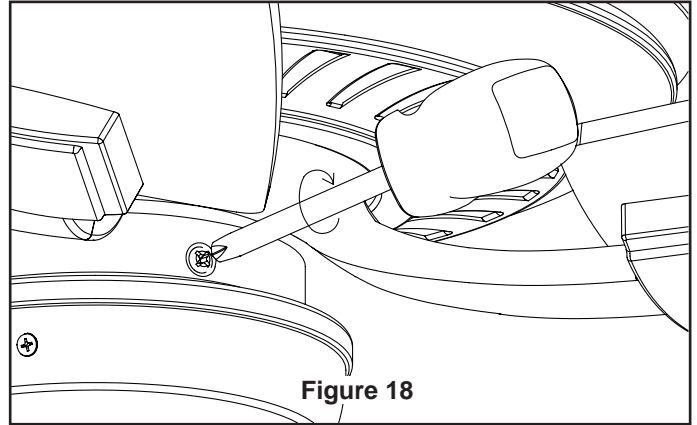

Figure 18
2. Assemble the switch cup assembly onto the housing adapter with three screws. (Figure 18)